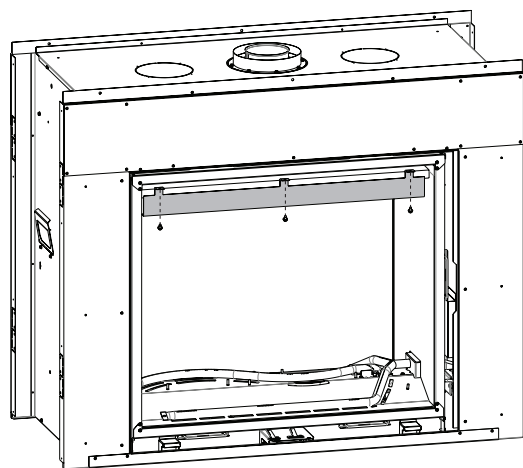

Figure 85
3. Remove the top liner bracket and top liner **See Figures 85 and 86.**